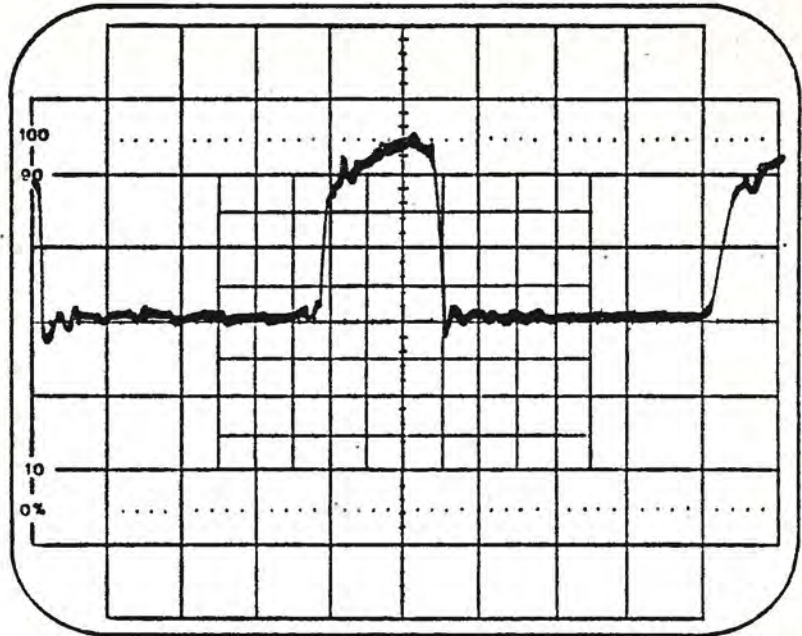

Figure 3-4
- 2) Pin 4 ( $\overline{\text{RAS}}$ ) of all 8 RAMs in any 4K block will have double negative going pulses when that block is selected (Figure 3-4).